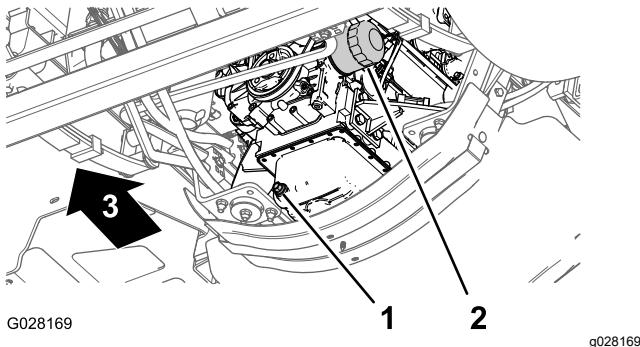

Figure 79
3. Align a drain pan under the engine oil filter (Figure 79).
4. Remove the old oil filter (Figure 79).
8. Install the oil filter to the filter adapter and turn the oil filter clockwise until the rubber gasket contacts the filter adapter, then tighten the filter an additional 1/2 turn (Figure 79).
1. Align a drain pan under the drain plug (Figure 79).
2. Remove the drain plug (Figure 79) and allow the oil to drain completely.